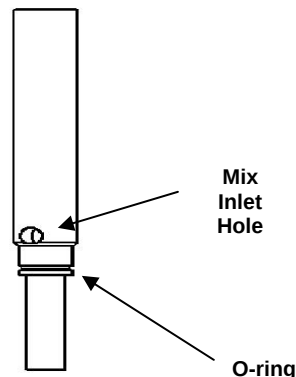

Fig. 7
6. Remove the carburetor tube (Fig. 7) from the mix pan. Disassemble and clean in the following manner: